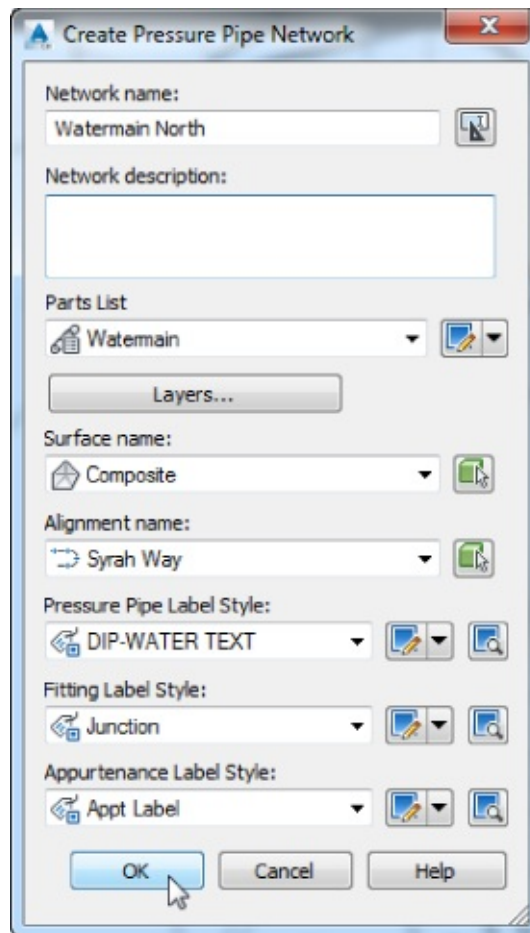

Figure 13.84 Creating your new Watermain North system using pressure pipe network tools
- d. Set the pipe, fitting, and appurtenance labels styles as shown in Figure 13.84.